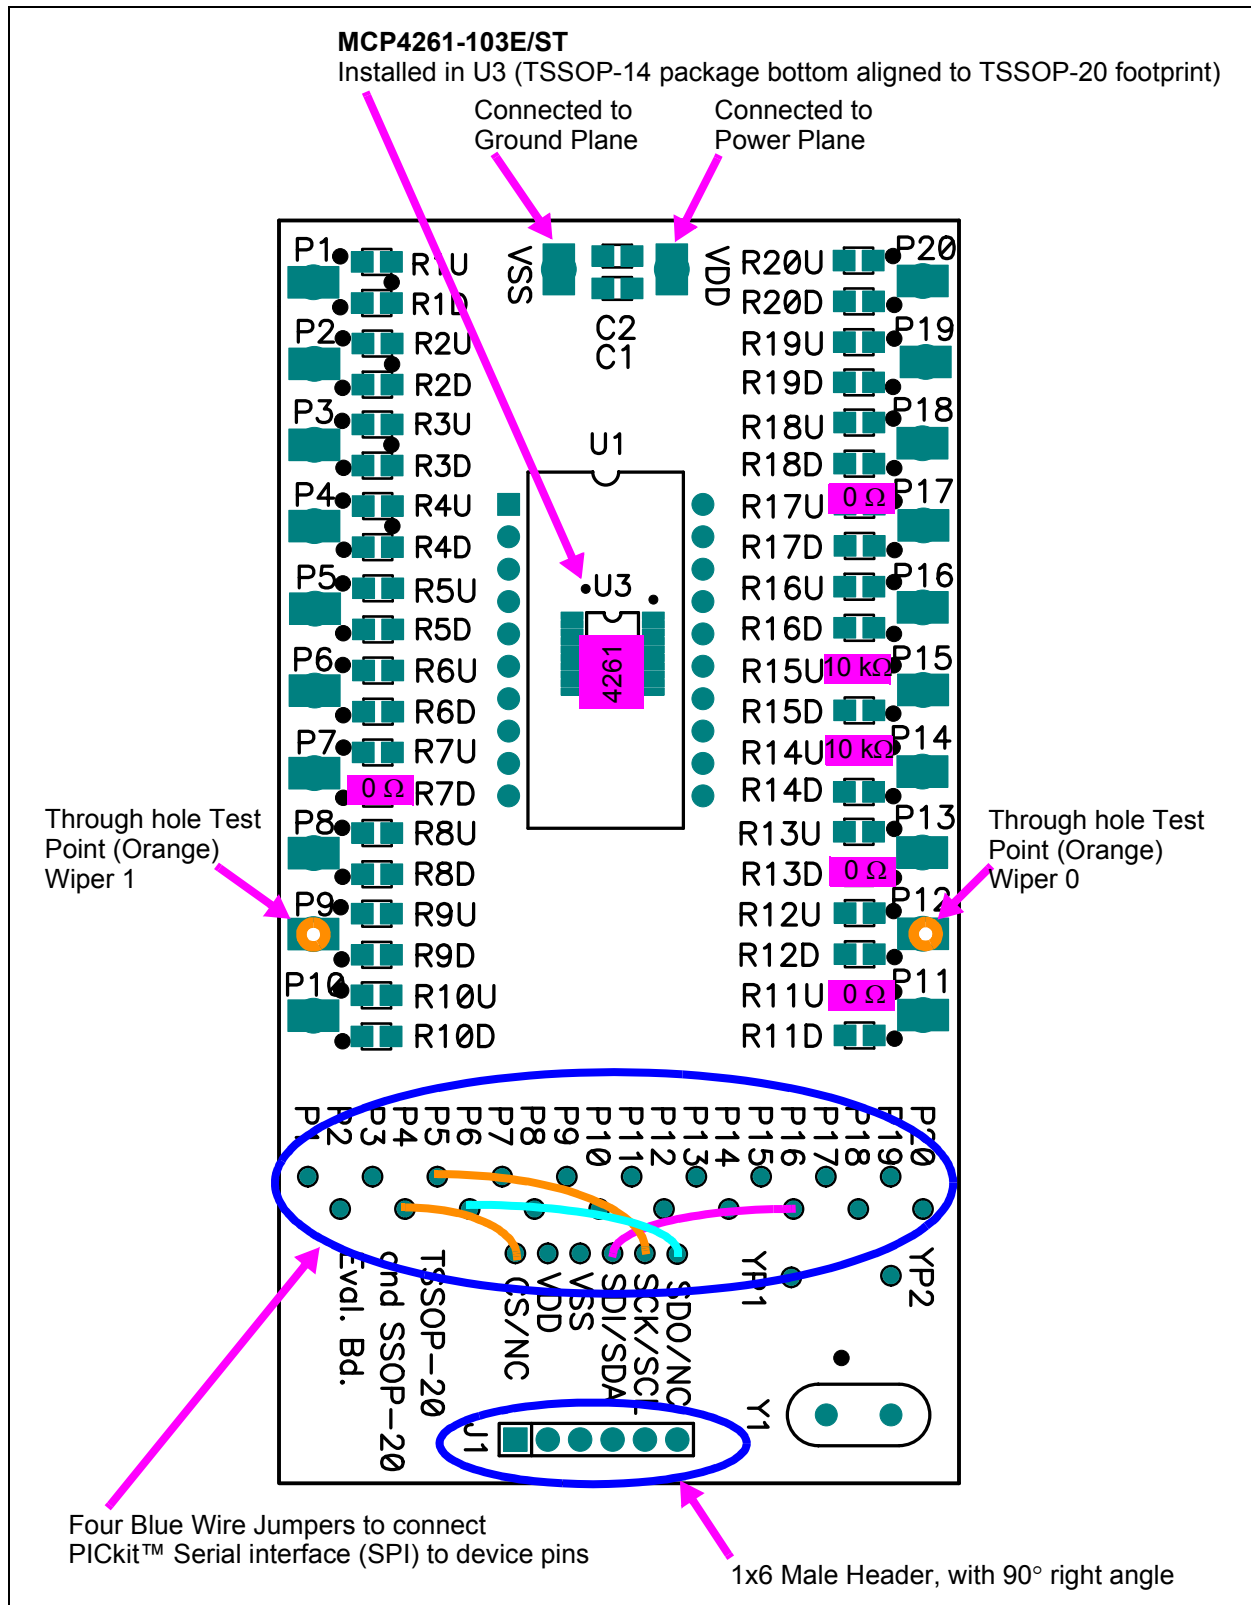

FIGURE 2-2: MCP42XXEV Evaluation Board Component Placement Using the TSSOP20EV Evaluation Board (Top).
Additional information on using the TSSOP20EV Evaluation Board PCB or for modifying the MCP42XXEV Evaluation Board is available in the TSSOP20EV User's Guide (DS51875). **Appendix A. "Schematic and Layouts"** has information on the PCB schematic and layout while Figure 2-2 shows components that are installed on the PCB.
- 0Ω resistors connect MCP4261 V_{DD} and V_{SS} signals to the appropriate power or ground plane (see Figure 2-2)
- 0Ω resistors connect MCP4261's Resistor Network 0 A terminal signal to power plane, resistor network is in a voltage divider configuration (see Figure 2-2)
- 0Ω resistors connect MCP4261's Resistor Network 0 B terminal signal to ground plane, resistor network is in a voltage divider configuration (see Figure 2-2)
Figure 2-2 shows the component layout of the MCP42XXEV Evaluation Board. This is a small four-layer board (3.9" x 2.1" (99.06 mm x 53.34 mm)). There are twenty-two connection points/pads that can use either through-hole or surface-mount connector posts.